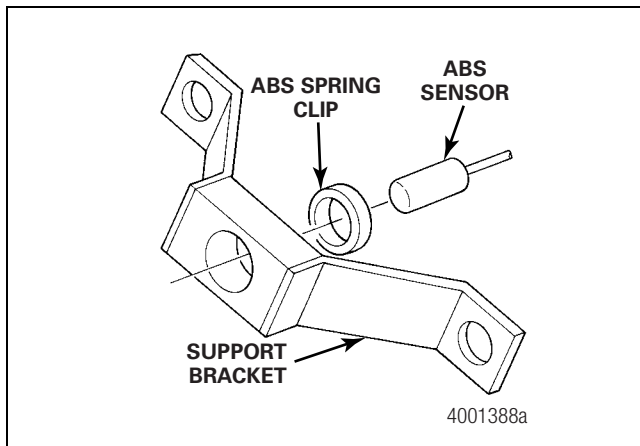

Figure 5.9
2. Assemble the ABS spring clip and the ABS sensor into the ABS support bracket. Figure 5.9.